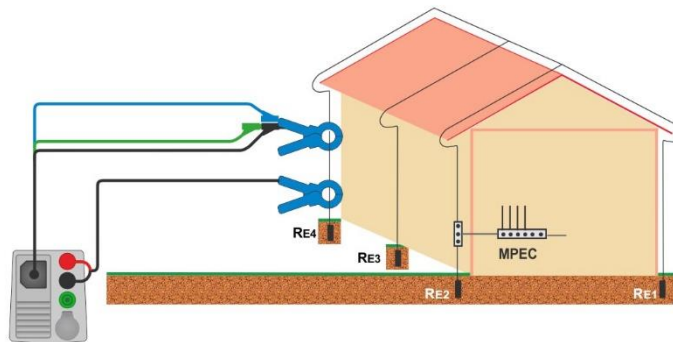

Figure 7.75: Contactless earthing resistance measurement
- › Clamp on object under test, see **Figure 7.75**.